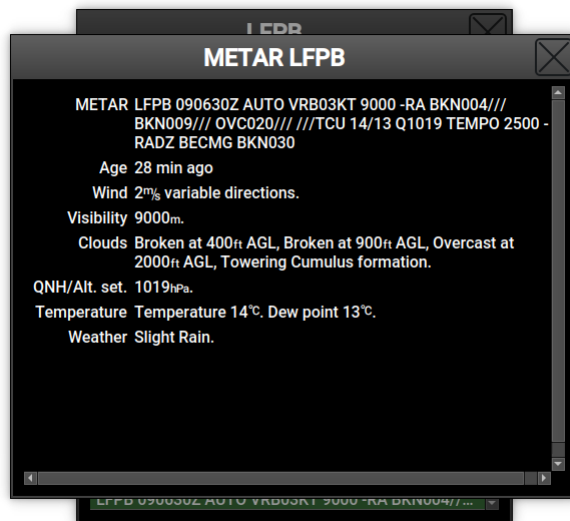

Figure 12: An example of interpreted METAR report.
**Weather** section is available when Aetos is connected to the Internet. METAR reports are shown. In addition, when the METAR report is selected, a new window is opened, where the METAR report is interpreted in a more friendly form. For an example, see Figure 12. Full METAR report is shown on the top and the interpreted part below. Note that we try to interpret as much as possible, but some parts may be too difficult to handle.